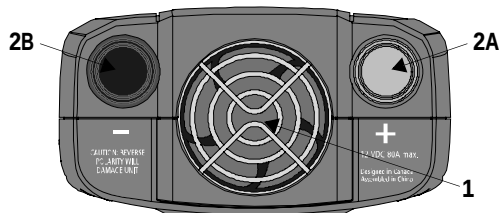

Figure 2 DC Panel
Figure 2 shows the DC panel of the Inverter. Use Table 1 to identify the function of each item.
3. Connect the ring terminals on the DC cable clamps to the cabling terminals on the unit. (The cabling terminals are shown in Figure 2.) Fasten the positive (red) ring terminal to the positive cabling terminal, and then fasten the negative (black) ring terminal to the negative cabling terminal.